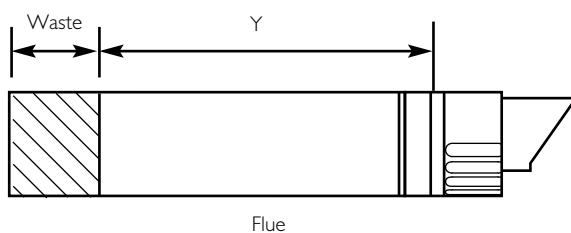

Fig. 49
5. Mark dimension 'Y' on the flue as shown (Fig. 49). Carefully cut the waste material from the flue, ensuring that the ducts are square and free from burrs.